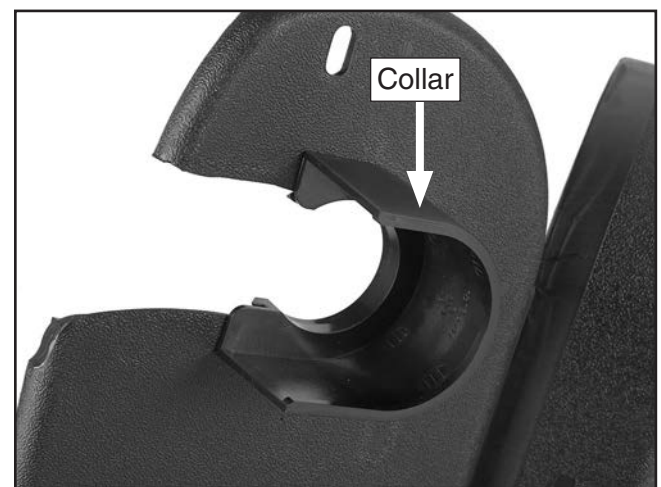

Figure 18. Collar installed.
1. Slide the collar onto the bottom side of the pulley cover and snap in place, as shown in **Figure 18**.